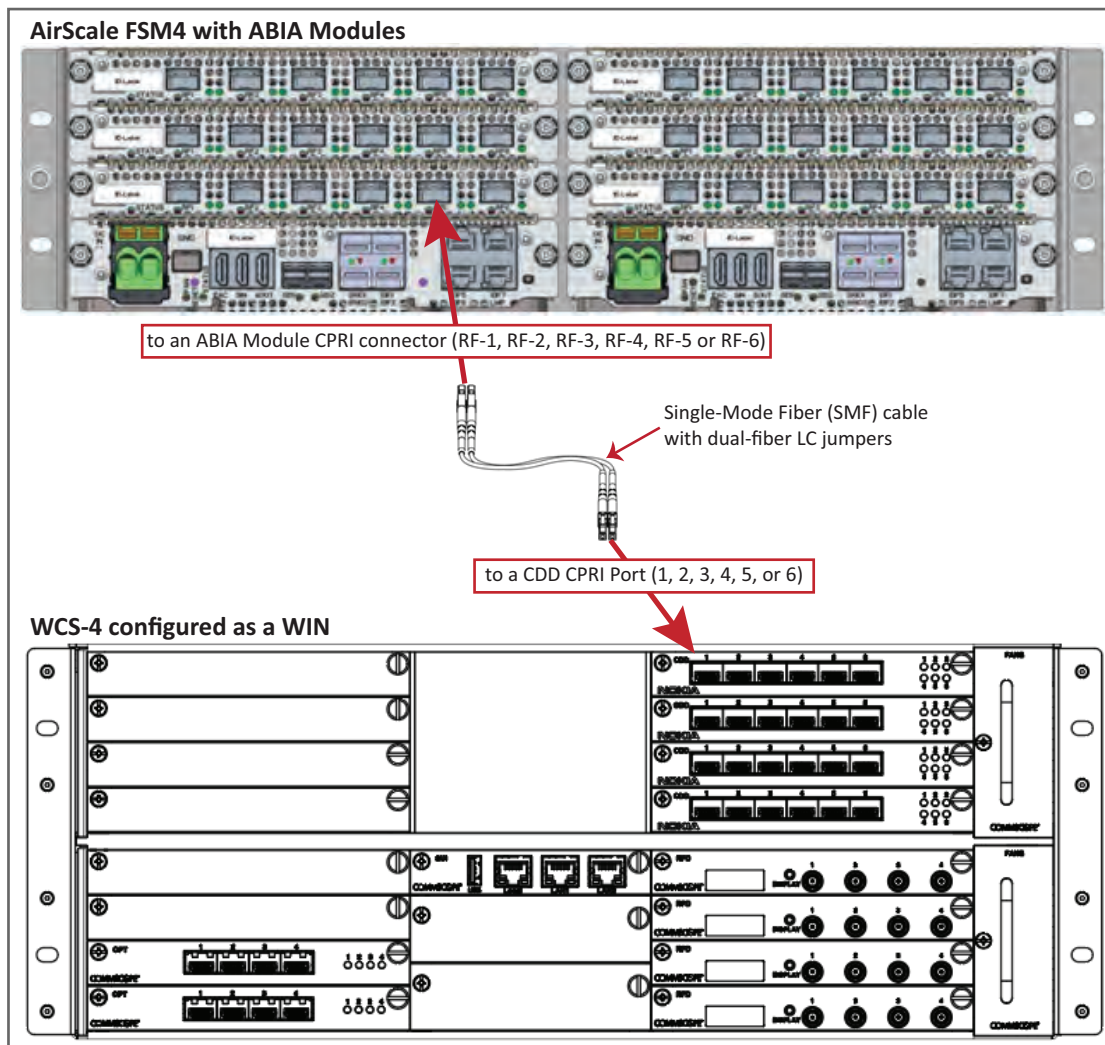

Figure 15. CDD Card in a WIN Connecting to a BBU
- For WIN installations, see Figure 15 on page 77.